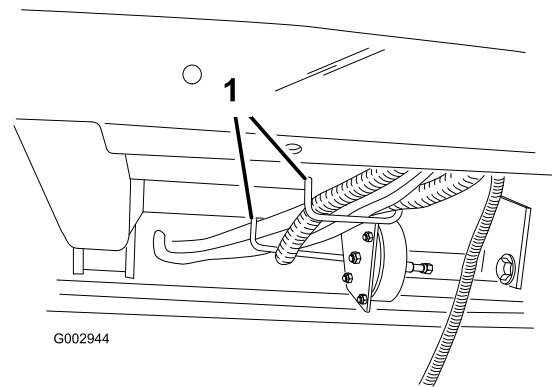

Figure 26
8. Route the rear control box harness through the dash, under the vehicle, through the two harness rings under the floor panel (Figure 26) or R-clamps on newer vehicles.